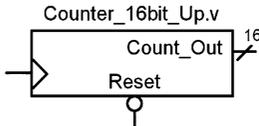

Fig. 9.1
9.1.1 Design a Verilog behavioral model for a 16-bit, binary up counter using a single procedural block. The block diagram for the port definition is shown in Fig. 9.1.
9.1.2 Design a Verilog behavioral model for a 16-bit, binary up counter with range checking using a single procedural block. The block diagram for the port definition is shown in Fig. 9.1. Your counter should count up to 60,000 and then start over at 0.